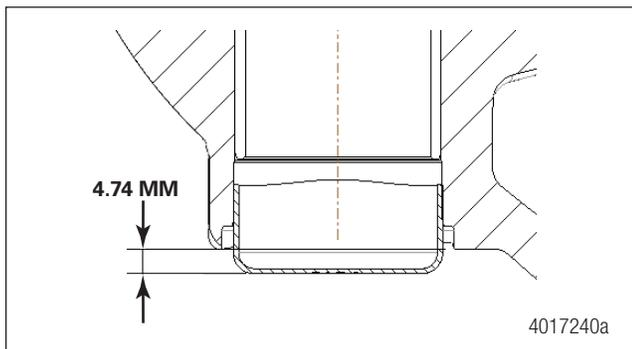
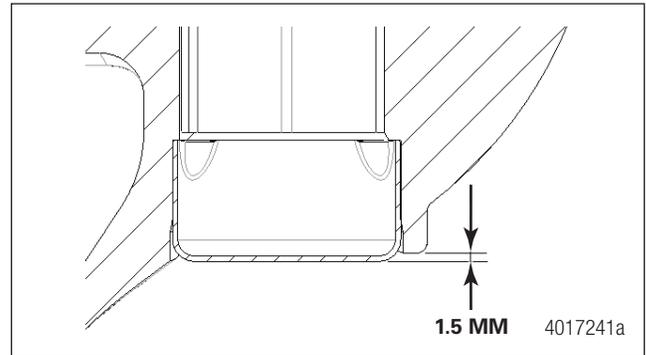

Fig. 8.16 Slide Pin Measurement
Fig. 8.17 Slide Pin Measurement
STEP 5 - Install the slide pin caps. Figure 8.16 and Figure 8.17.